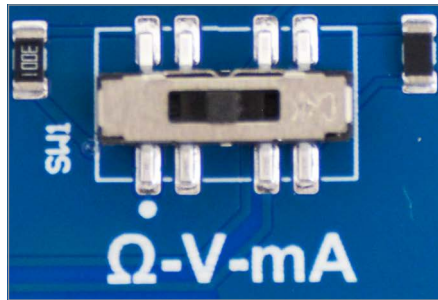

FIGURE 15: *Analog Mode Selector Switch*
8. **Analog Data Loggers Only:** Confirm the selector switch (located under the terminal block, see Figure 15) is set to the appropriate mode for the sensor being read. See Appendix D for examples on wiring and selector switch configuration.